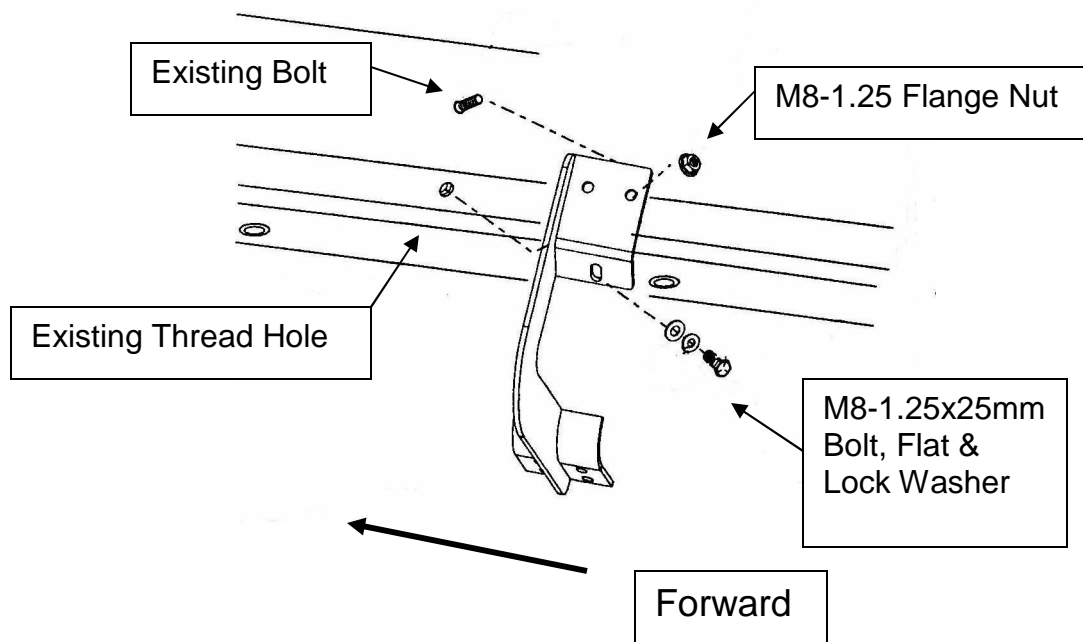

Figure 2. Installation View of Passenger Side Shown
6. Repeat installation for passenger side. (**see Fig 2**)